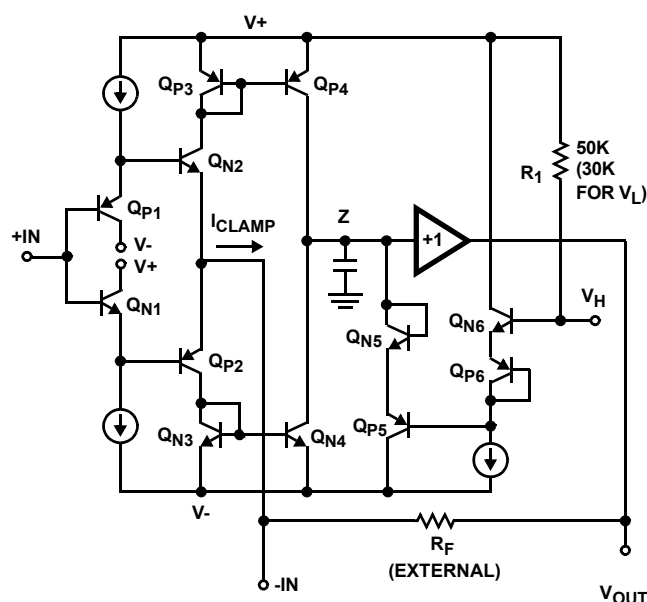

FIGURE 1. HFA1130 SIMPLIFIED V_H CLAMP CIRCUITRY
Figure 1 shows a simplified schematic of the HFA1130 input stage, and the high clamp (V_H) circuitry. As with all current feedback amplifiers, there is a unity gain buffer ($Q_{X1} - Q_{X2}$) between the positive and negative inputs. This buffer forces $-IN$ to track $+IN$, and sets up a slewing current equal to the current flowing through the inverting input. This current is mirrored onto the high impedance node (Z) by $Q_{X3} - Q_{X4}$, where it is converted to a voltage and fed to the output via another unity gain buffer. If no clamping is utilized, the high impedance node may swing within the limits defined by Q_{P4} and Q_{N4} . Note that when the output reaches its quiescent value, the current flowing through $-IN$ is reduced to only that small current ($-I_{BIAS}$) required to keep the output at the final voltage.
The clamped output voltage will not be exactly equal to the voltage applied to V_H or V_L . Offset errors, mostly due to V_{BE} mismatches, cause inaccuracies in the clamping level. Clamp accuracy is a function of the clamping conditions. Referring again to Figure 1, it can be seen that one component of clamp accuracy is the V_{BE} mismatch between the Q_{X6} transistors, and the Q_{X5} transistors. If the transistors are run at the same current level there is no V_{BE} mismatch, and no contribution to the inaccuracy. The Q_{X6} transistors are biased at a constant current, but as described earlier, the current through Q_{X5} is equivalent to I_{CLAMP} . V_{BE} increases as I_{CLAMP} increases, causing the clamped output voltage to increase as well. I_{CLAMP} is a function of the overdrive level and R_F , so clamp accuracy degrades as the overdrive increases, and as R_F decreases. Consideration must also be given to the fact that the clamp voltages have an effect on amplifier linearity. As the output voltage approaches the clamp level the clamp circuitry starts to conduct and linearity degrades. Most limiting amplifier data